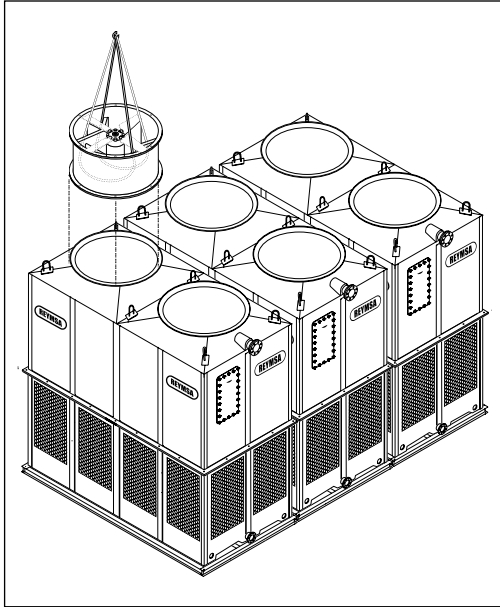

Figure A-65: Fan Duct installation for a Modular Tower (RTM-B-L or RTPM-B-L)
- D. Then cradle/straddle the fan support with the straps (as shown in figure A-65 and A-66) so you can lift the fan duct with a crane and assemble it.